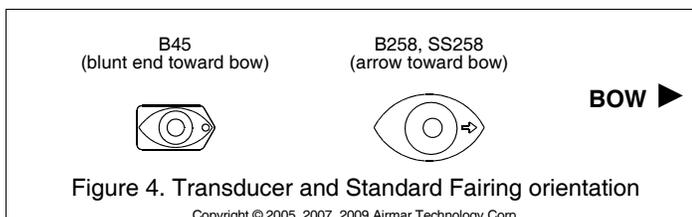

Figure 4. Transducer and Standard Fairing orientation
1. From outside the hull, thread the cable through the mounting hole. Then push the stem of the transducer through the hole using a twisting motion to squeeze out excess sealant. *Take care to align the transducer with the blunt end facing the bow and the long side parallel to the centerline of the boat (see Figure 4).*